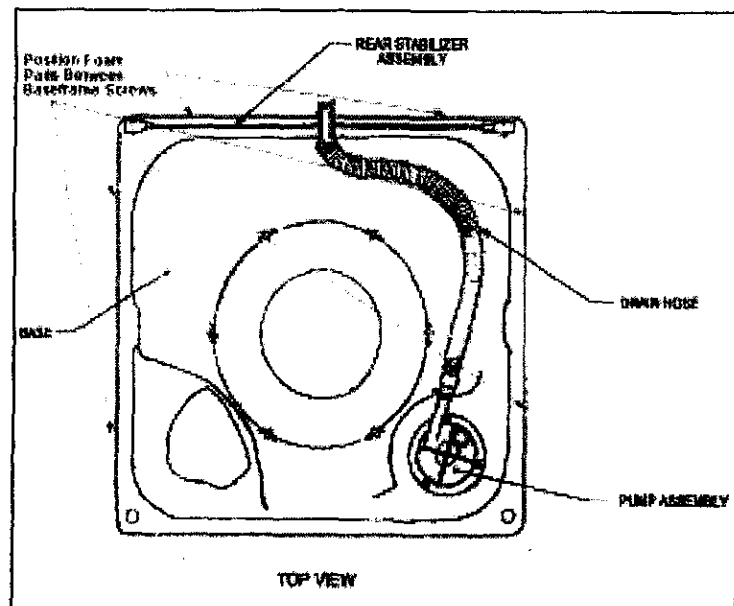

Figure 4
4. Insert a foam pad between the inside of the cabinet and the baseframe and retighten the screws securing the cabinet to baseframe. *(Figure 4)*